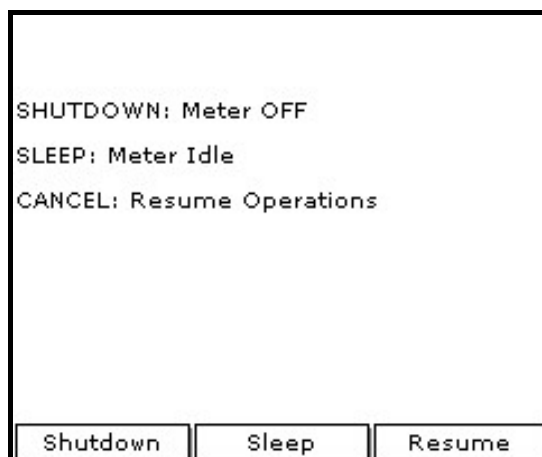

Figure 2: Shutdown Menu
- To turn the PM880 off, press the red key for 3 seconds. The screen now appears similar to Figure 2.